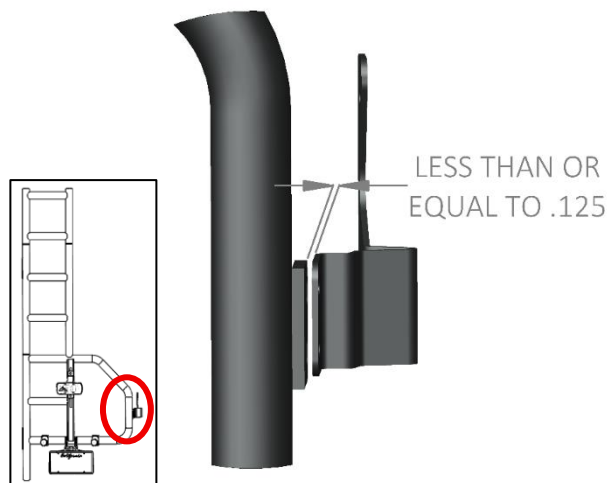

Figure 15: Inner Bracket to Ladder Spacing
- There should be a small gap at the inner bracket before tightening (0 to an 1/8"). If the gap is larger than 1/8", use the provided 1/8" washers (70448) to close the gap until is less than or equal to 1/8" see Figure 15.